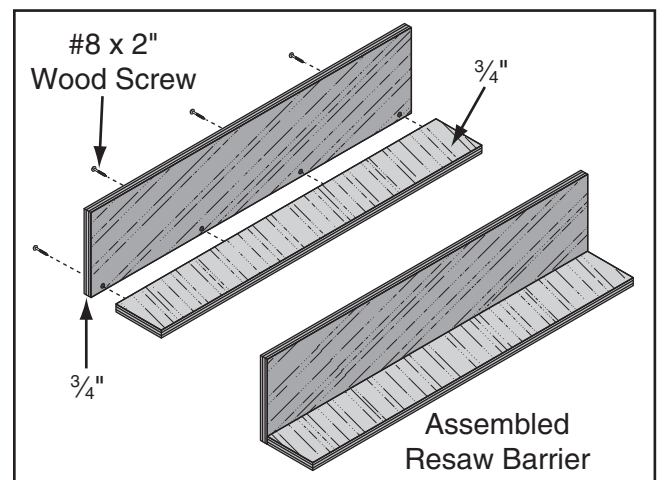

Figure 65. Resaw barrier.
3. Glue end of 3" board, clamp boards at a 90° angle with larger board in vertical position, as shown in **Figure 65**, then fasten together with wood screws.